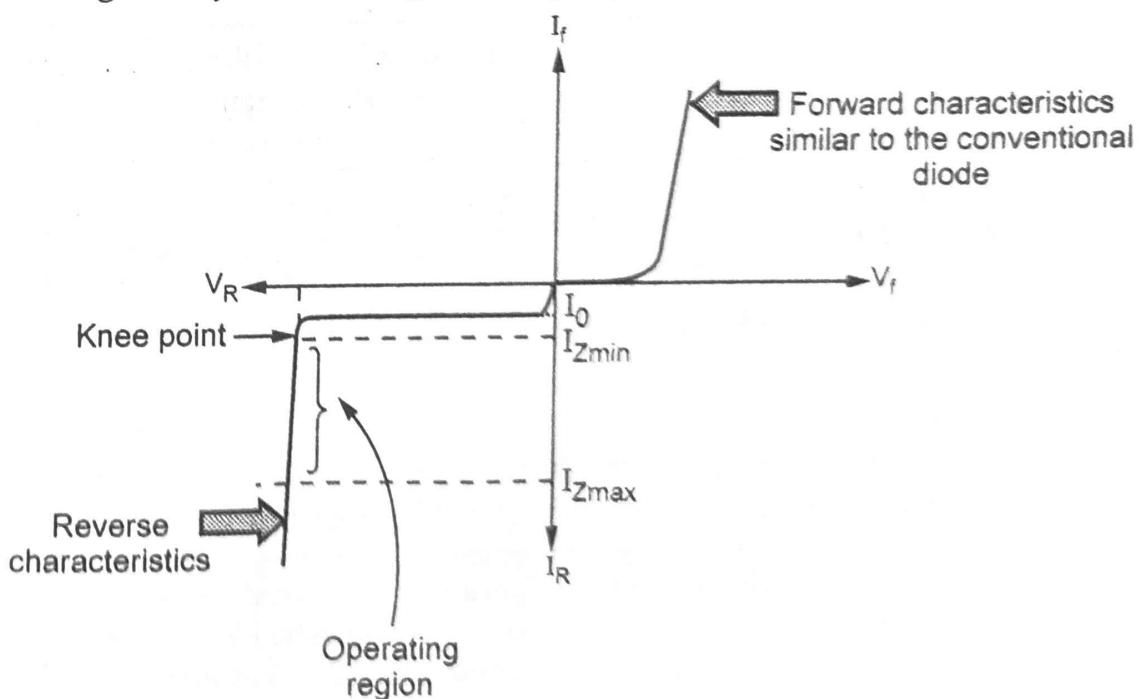

Fig. Q.13.2 V-I Characteristics of zener diode
- The V-I characteristics of zener diode is shown in the Fig. Q.13.2.